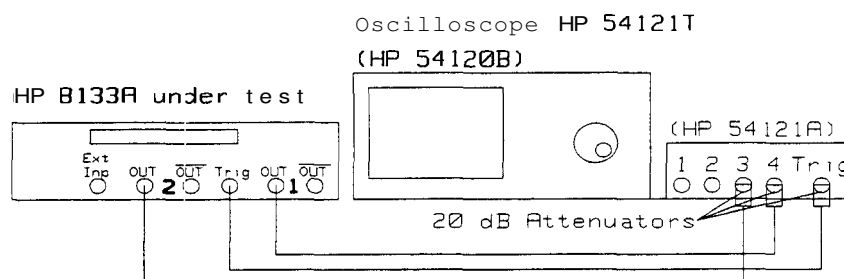

Figure 3-11. Inter-Channel Delay Test Set-up
28. Connect the HP 8133A Pulse Generator to the 'scope as shown in Figure 3-11.